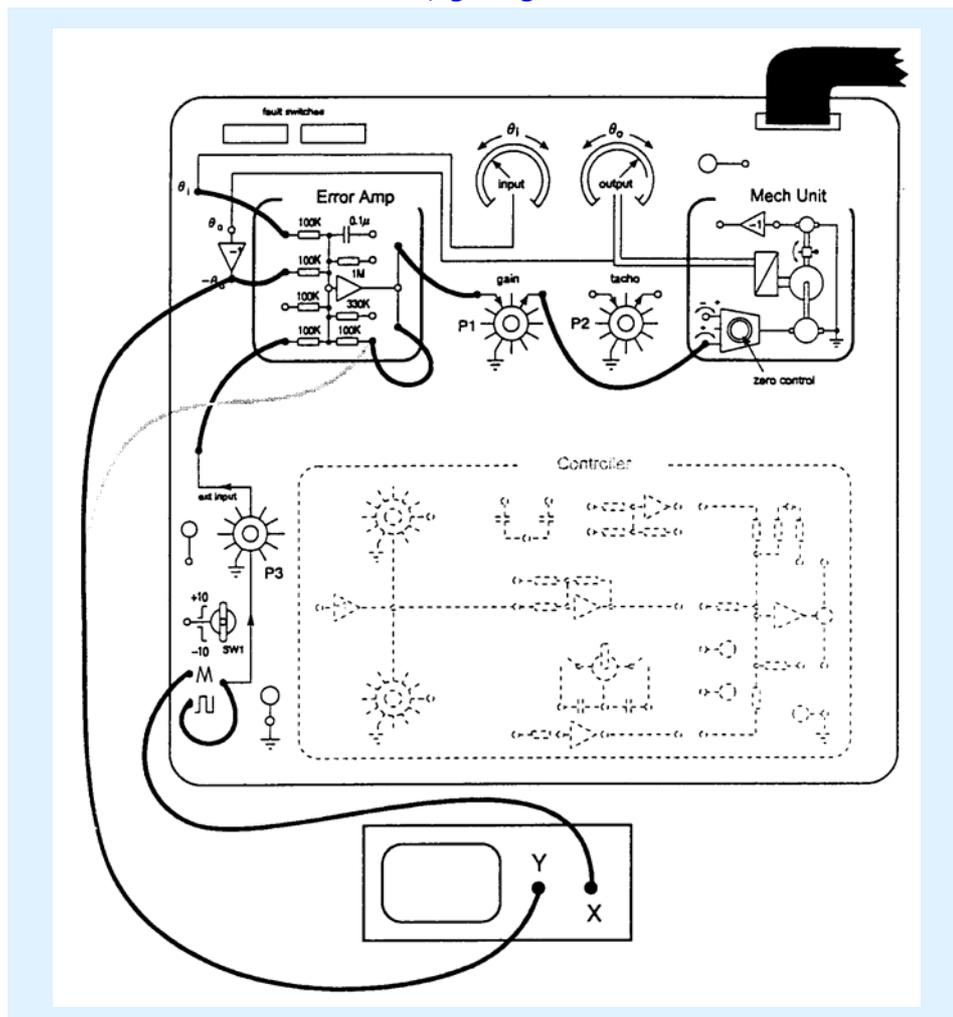

Fig. 3 Connections for influence of gain
6. Arrange the system with the solid connections of Fig. 3 with the error amplifier feedback resistor $100\text{K}\Omega$, giving $G = 1$.